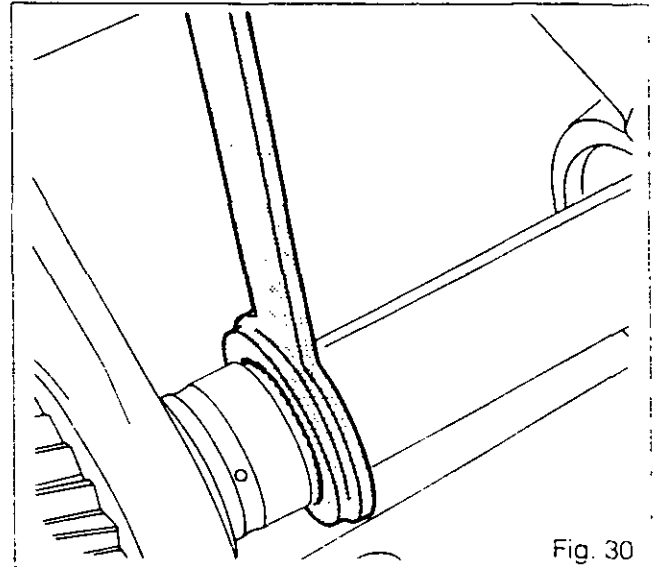
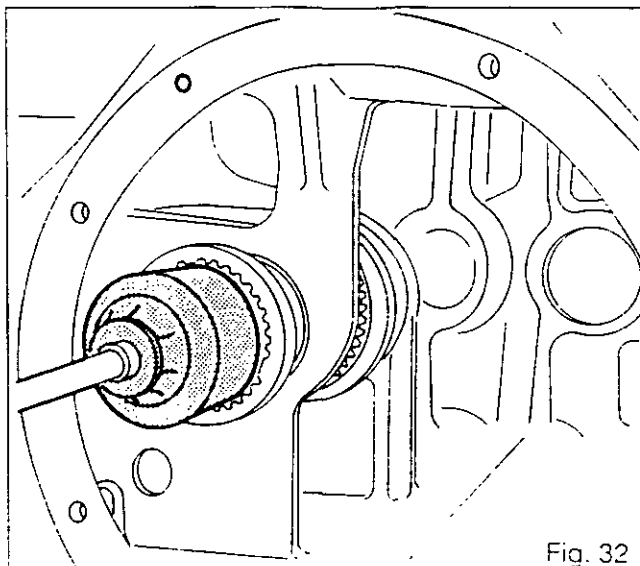

Fig. 30
Fig. 32
91. Fit the locking tool MF 458 and the locally made retaining sleeve (Fig.30 and 31).
92. Fit the washer (6)
93. Using a press, fit the bearing cone (1) on the sleeve (82).
**Note: To shim using formula P1, do not fit the A/B gear train (Fig.32).**
95. Fit the bush (81), the A/B synchromesh (78), the bush (74) and the spur washer (73) on the shaft.
96. Fit nut (68) and tighten to a torque of 80-100 Nm using tool MF 456 (Fig.32).
98. Remove tool MF 458 and the sleeve (Fig.30 and 31).
104. Fit tool MF 458 and the locally made-up sleeve (Fig.30 and 31).
120. Remove tool MF 458 and the retaining sleeve (Fig. 30 and 31).
132. Fit tool MF 458 and the retaining sleeve (Fig.30 and 31).